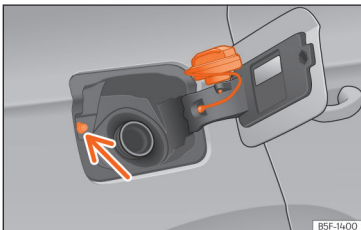

Fig. 214 Fuel tank flap with tank cap attached.
- Place it in the space on the hinge of the open flap >>> **Fig. 214**.
Avoid touching the fuel tank flap lock button >>> **Fig. 214** (arrow). The system will interpret that you have finished and cannot continue refuelling. Press the  button on the driver's door again to continue.